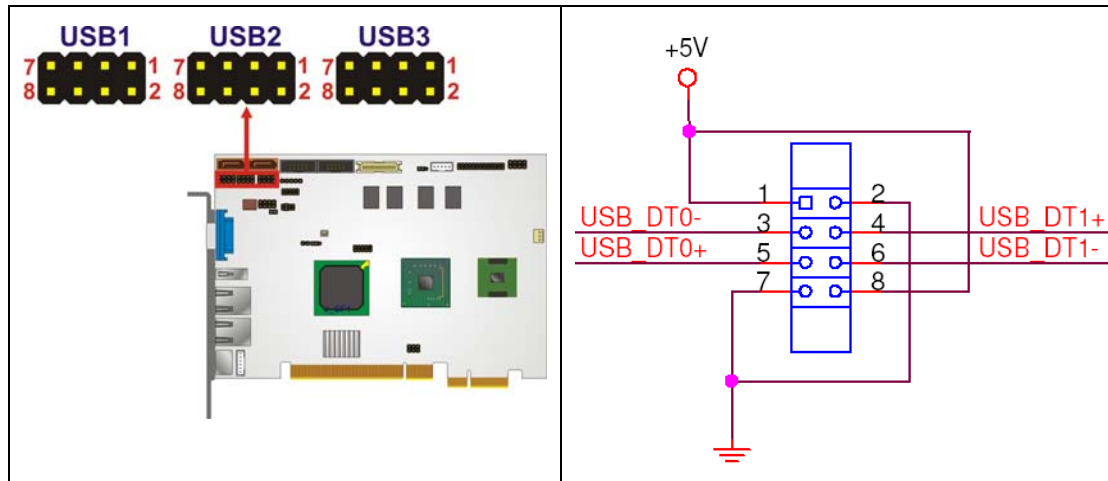

Figure 4-18: USB Connector Pinout Locations
- CN Location:** See **Figure 4-18**